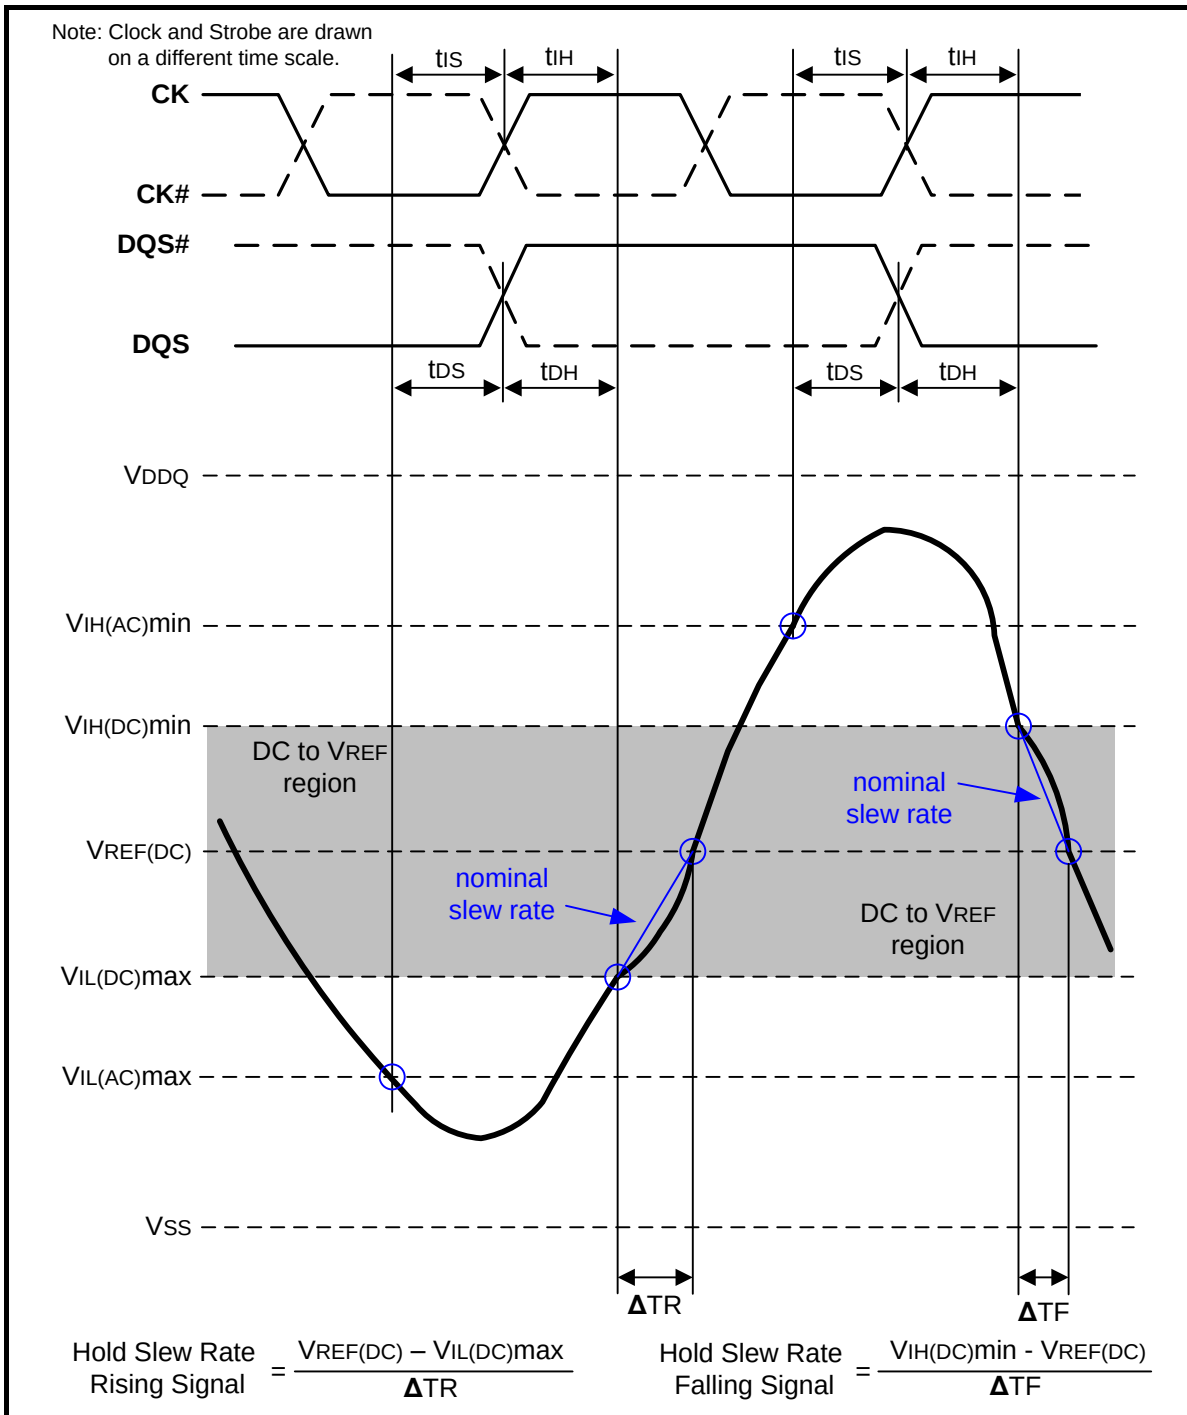
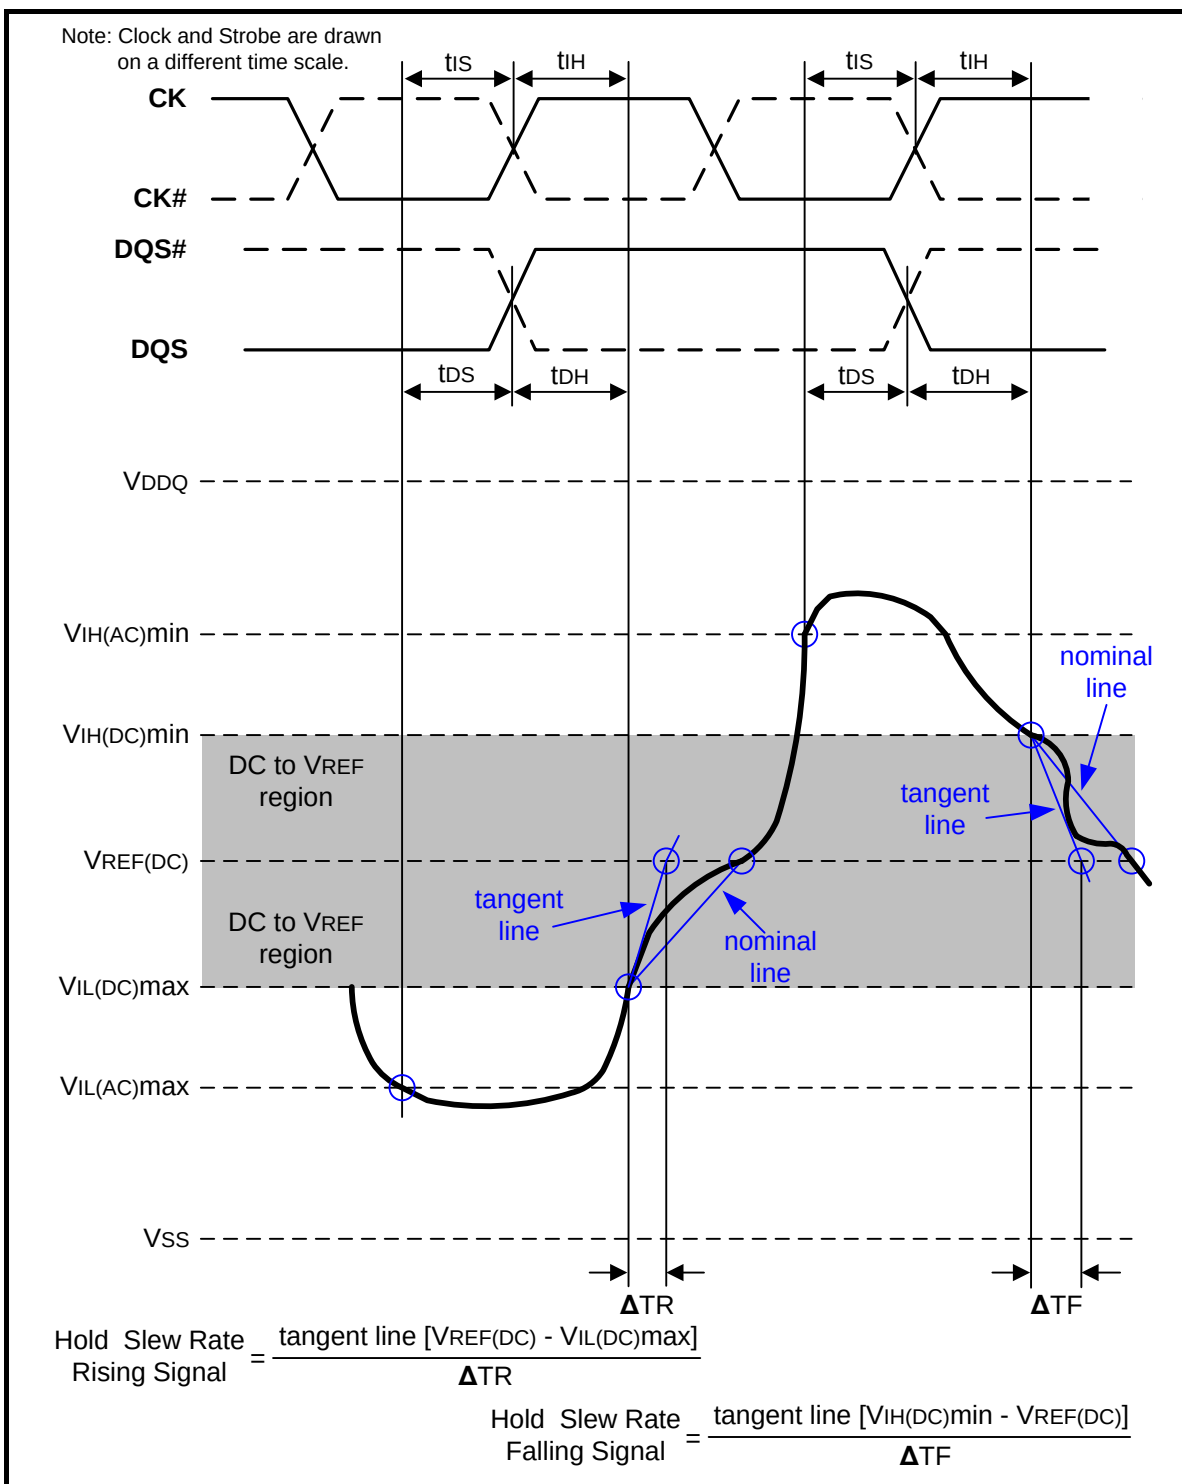

Figure 108 – Illustration of nominal slew rate for hold time t_{DH} (for DQ with respect to strobe) and t_{IH} (for ADD/CMD with respect to clock)
Figure 110 – Illustration of tangent line for for hold time t_{DH} (for DQ with respect to strobe) and t_{IH} (for ADD/CMD with respect to clock)
Hold (t_{IH}) nominal slew rate for a rising signal is defined as the slew rate between the last crossing of $V_{IL}(\text{DC})_{\text{max}}$ and the first crossing of $V_{REF}(\text{DC})$. Hold (t_{IH}) nominal slew rate for a falling signal is defined as the slew rate between the last crossing of $V_{IH}(\text{DC})_{\text{min}}$ and the first crossing of $V_{REF}(\text{DC})$. If the actual signal is always later than the nominal slew rate line between shaded 'DC to VREF(DC) region', use nominal slew rate for derating value (see Figure 108). If the actual signal is earlier than the nominal slew rate line anywhere between shaded 'DC to VREF(DC) region', the slew rate of a tangent line to the actual signal from the DC level to $V_{REF}(\text{DC})$ level is used for derating value (see Figure 110).
Hold (t_{DH}) nominal slew rate for a rising signal is defined as the slew rate between the last crossing of $V_{IL}(\text{DC})_{\text{max}}$ and the first crossing of $V_{REF}(\text{DC})$. Hold (t_{DH}) nominal slew rate for a falling signal is defined as the slew rate between the last crossing of $V_{IH}(\text{DC})_{\text{min}}$ and the first crossing of $V_{REF}(\text{DC})$ (see Figure 108). If the actual signal is always later than the nominal slew rate line between shaded 'DC level to VREF(DC) region', use nominal slew rate for derating value. If the actual signal is earlier than the nominal slew rate line anywhere between shaded 'DC to VREF(DC) region', the slew rate of a tangent line to the actual signal from the DC level to $V_{REF}(\text{DC})$ level is used for derating value (see Figure 110).